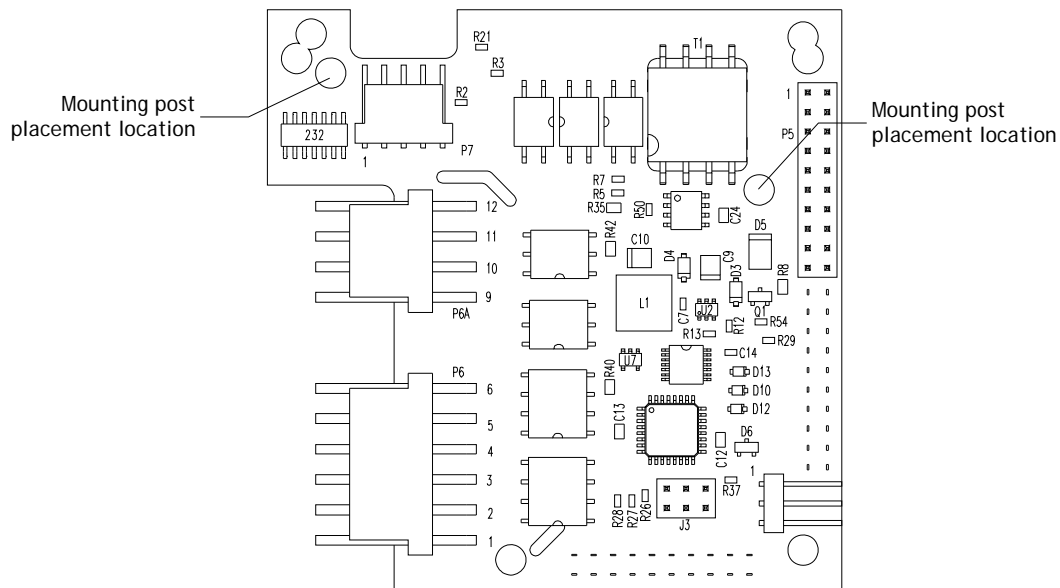

Figure 4. Mounting post placement on RS-232/RS-485 option board
- First align P4 on the option board with J4 on the ALPHA meter board. If properly aligned, the plastic mounting posts will automatically align with the mounting holes in the option board. See Figure 4 for specific holes that the two mounting posts should use.